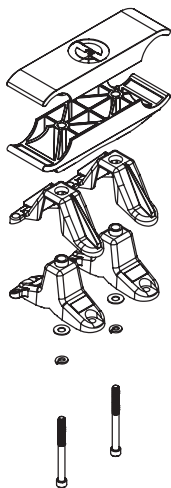

Figure 3
4. Place the **Bottom Tube Clamp** on top of the tubes and using $\frac{1}{4}$ inch **Hex Wrench** secure **Mounting Clamp Assembly** with **3.5" King Bolt** as shown in **Figure 3**